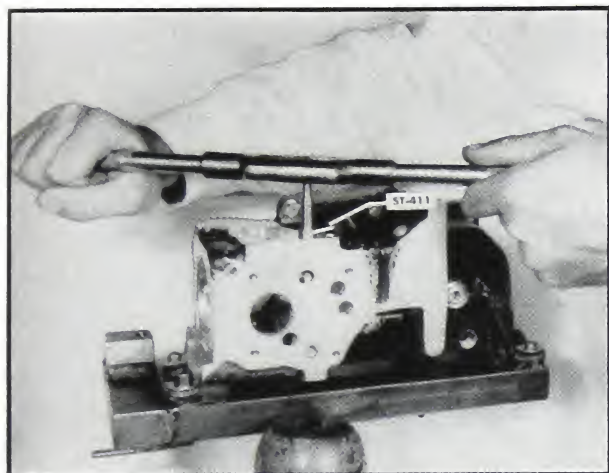

Fig. 5-247. Using ST-411
2. If valve does not seat, use ST-411 and take a very light cut. Fig. 5-247.
Two different automatic stops have been used on the DD Fuel Pump. If the pump has the old-style stop and it needs repair it must be replaced with the new style stop as described in following paragraphs. The new stop used in DD Fuel Pumps after Serial No. 17000 can be adapted to older pumps by reworking the stop bore with ST-411, see Fig. 5-247. The reworking dimensions are shown in Fig. 5-248. The following repair instructions apply to the latest stop.